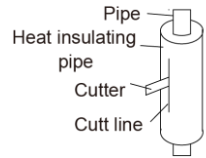

Fig. 4.12
- (3). When bending the pipe, do not bend it as is. The pipe will be collapsed. In this case, cut the heat insulating pipe with a sharp cutter as shown in Fig. 4.12, and bend it after exposing the pipe. After bending the pipe as you want, be sure to put the heat insulating pipe back on the pipe, and secure it with tape.